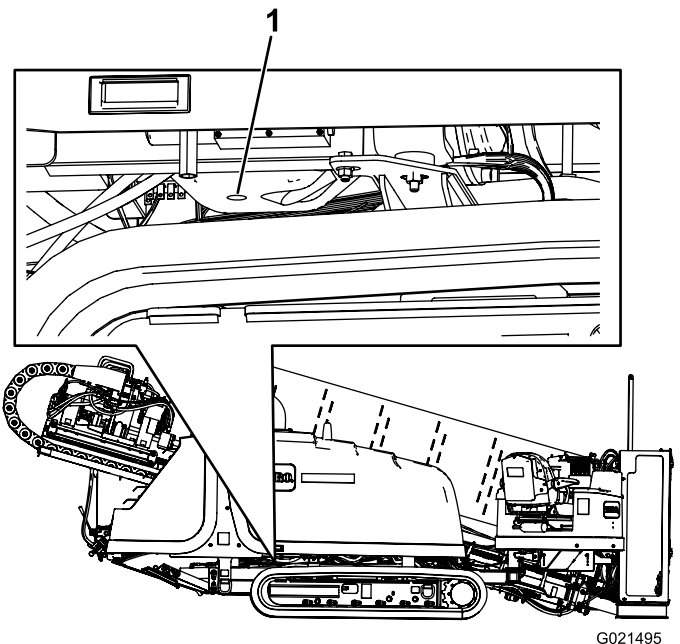

Figure 87
2. Remove the drain plug (Figure 87).
7. Install the drain plug onto the drain fitting (Figure 87).